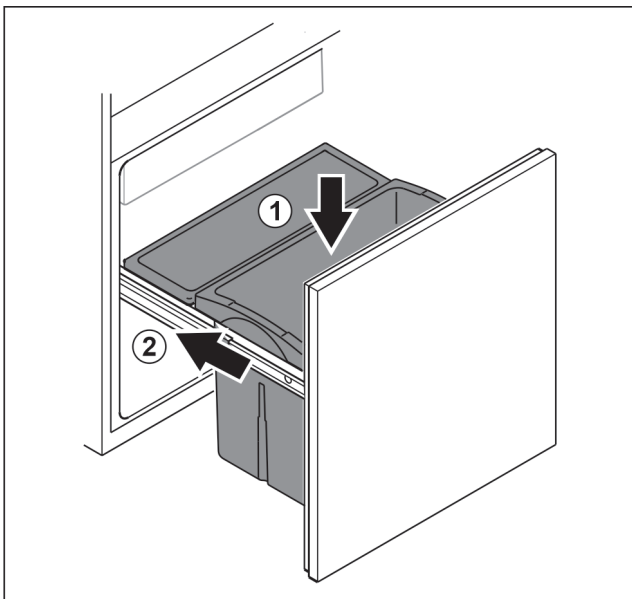

Fig. 161
- ▶ Insert drawer from above. Fig. 161 (1)
- ▶ Slide in pull-out unit. Fig. 161 (2)